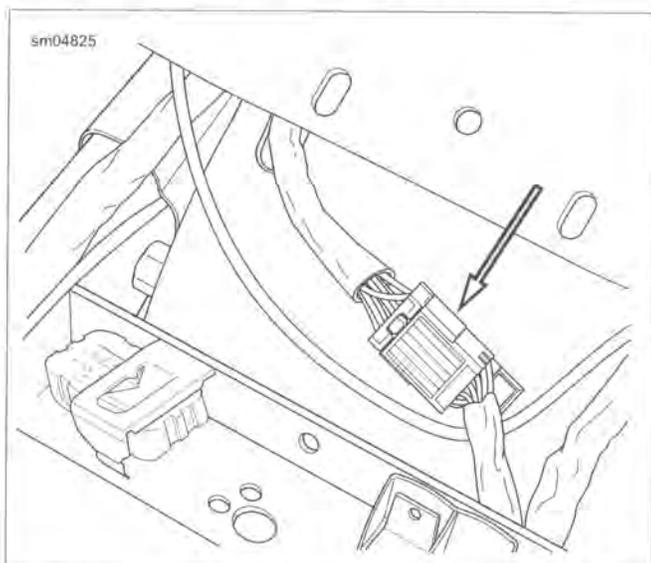

Figure 2-161. Rear Fender Lights Connector (models with under fender wiring)
3. **All except FLHX/S:** See Figure 2-161. Disconnect rear lighting connector from front of fender. Release connector from fender.
- All except FLHX/S:** See Figure 2-161. Connect rear fender lights connector and secure anchor in rear fender hole.